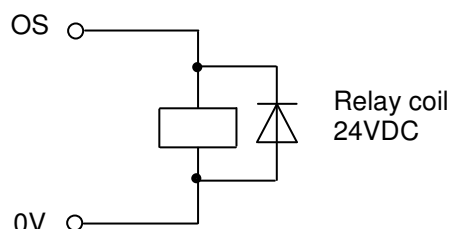

Fig. 4
The load must be connected between the corresponding terminal and **0V**, as indicated in the example in Fig. 4 for the Out of Service (OS) signal.
Always connect a diode in parallel with the coil of any relay, as indicated in Fig. 4.